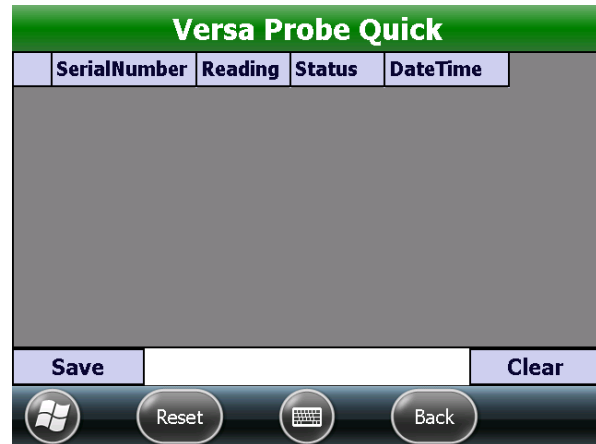

Figure 91: VersaProbe Quick Read screen
*Result: The VersaProbe screen opens as shown in Figure 91.*